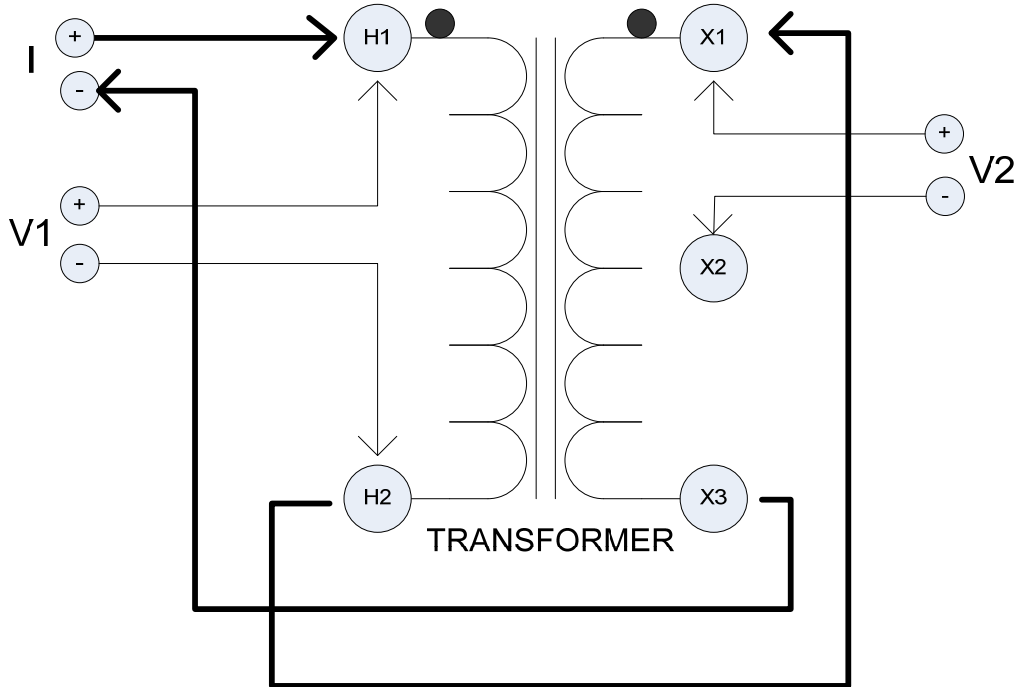

Figure 3: Dual-Winding Test
NOTES: *It should be noted that the jumper in Figure 3 be connected to opposite polarities of transformer to reduce transformer core saturation time (H2 to X1 for this example). If the resistance between the 2 windings is greater than factor of 10, you may get a more accurate reading by testing the windings separately.*
4. Connect "V1" voltage leads input to H1 and H2 terminals of test transformer. See *Figure 3*.
5. Connect "V2" voltage leads input to X1 and X2 terminals of test transformer. See *Figure 3*.
7. Press  to initiate current flow. The top display (I) indicates current output and the $\Omega 1$ display indicates resistance of primary winding and $\Omega 2$ display indicates the resistance of the secondary winding specimen.